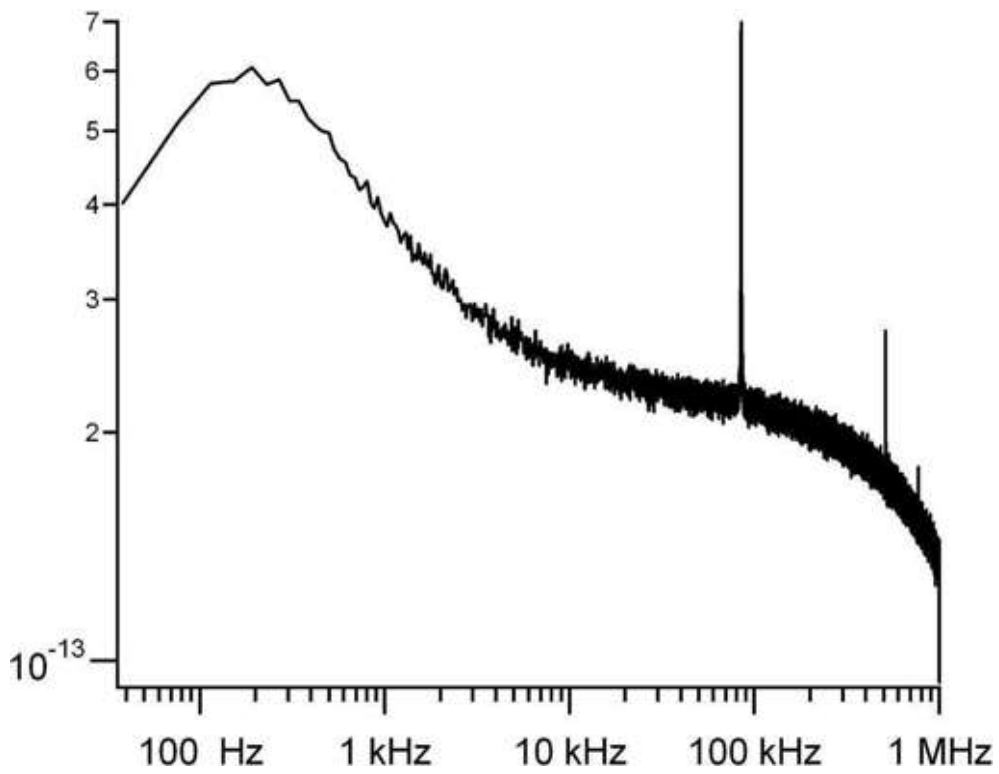

Figure 5.44 Thermal PSD Graph in Air
8. Check the Zoom Graph check box to zoom in on the peak (See Figure 5.44). You can also zoom in on the peak using Zoom Center and Zoom Width.